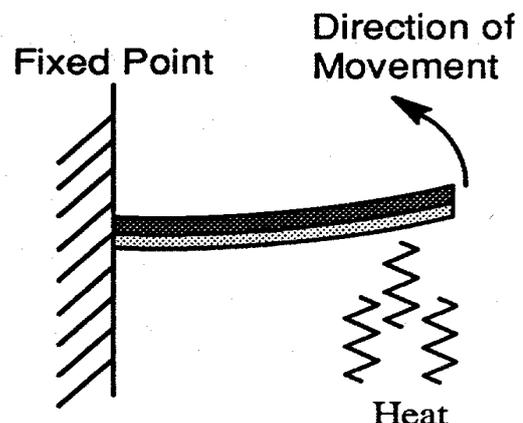

Figure 1 (b): Deflected Bimetallic Strip
- As a result of the application of heat, the whole metallic strip will bend in the direction of the metal with the lower coefficient. (Figure 1(b)).